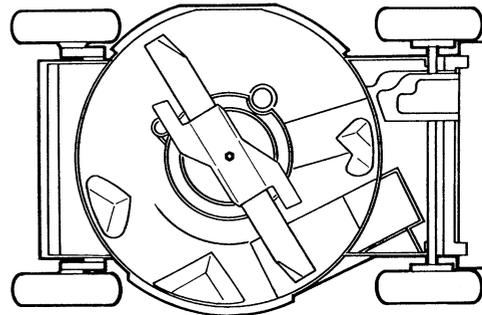

Figure 21
3. Tip mower on its right side (Fig. 21). Avoid rotating the blade because starting problems may result.